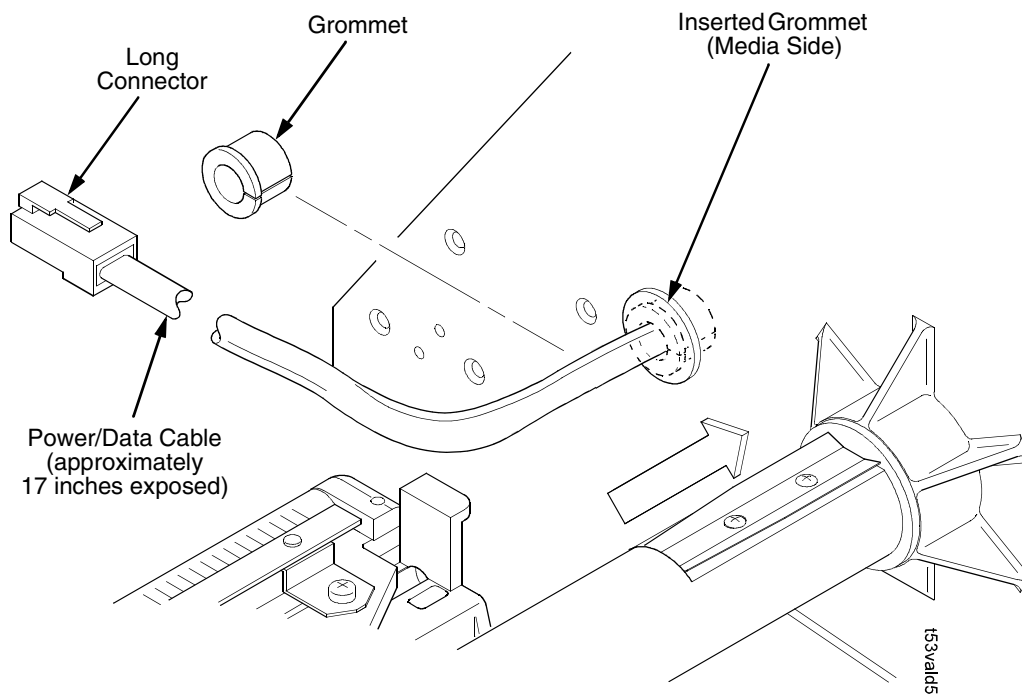

Figure 7. Adding the Grommet to the Power/Data Cable
11. On the media side of the printer, slide the grommet onto the power/data cable and insert it into the hole in the frame wall. (Figure 7.)